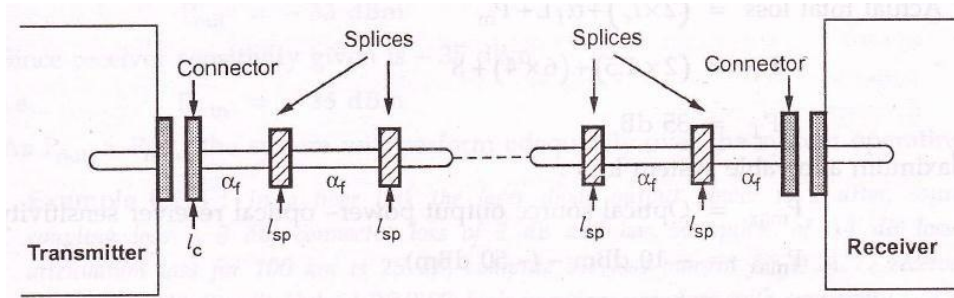

Fig. 6.2.3 Optical power loss model
- For optimizing link power budget an optical power loss model is to be studied as shown in Fig. 6.2.3. Let  $l_c$  denotes the losses occur at connector.  $L_{sp}$  denotes the losses occur at splices.  $\alpha_f$  denotes the losses occur in fiber.